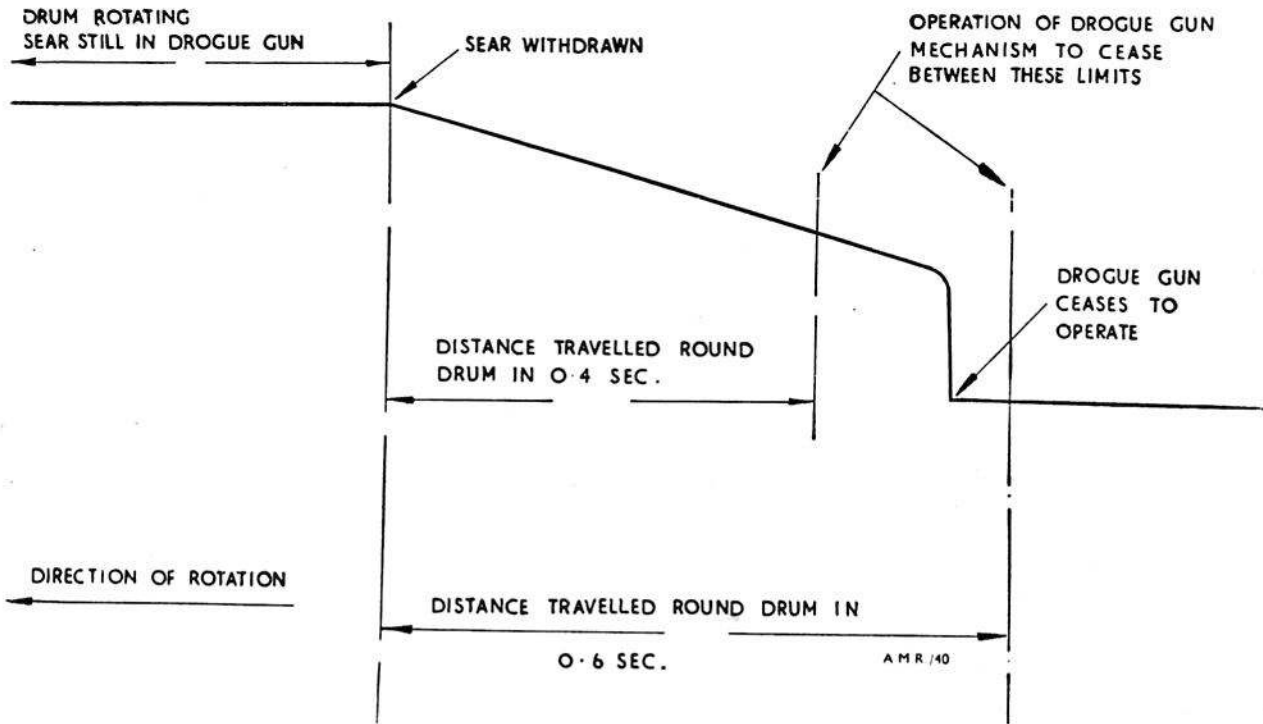

Fig. 8. Example graph
- (e) With the drum rotating, withdraw the sear from the drogue gun and, using the following formula, calculate the time taken for the time-delay mechanism to operate. An example graph is given in fig. 8. Where D =diameter of drum and N =r.p.m.:—